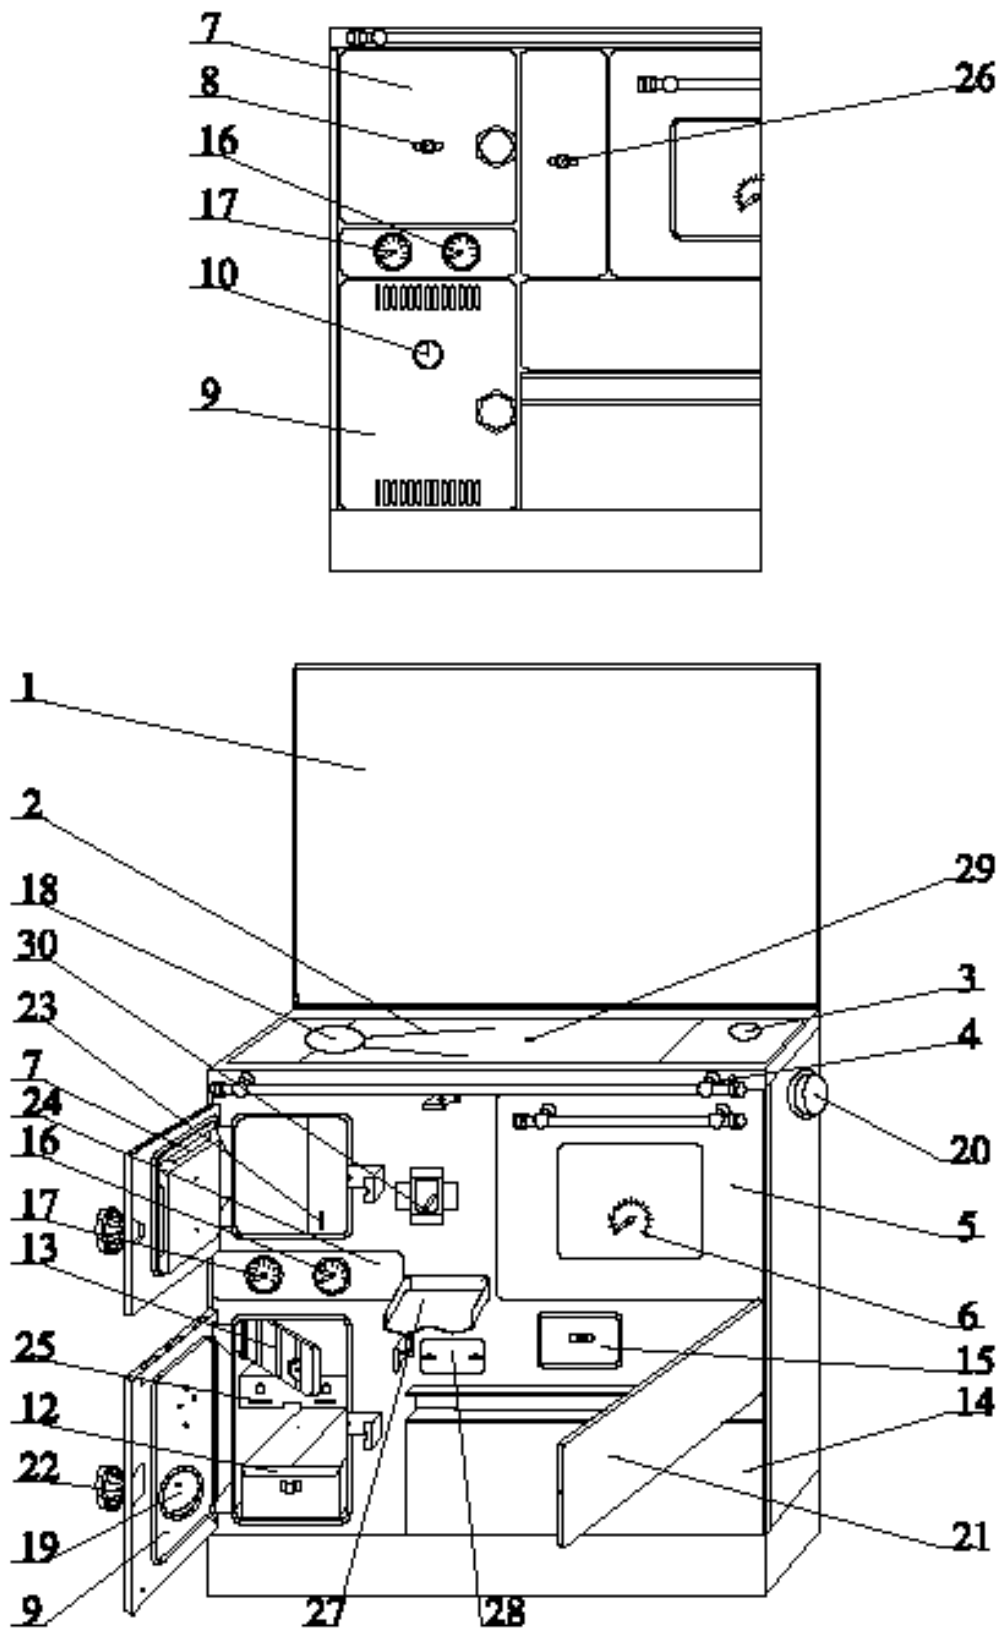

Figure 1
- combustion regulator (thermostat) (Fig. 1, Item 10), located in the ash pan door, which automatically shuts the air supply into the firebox when the preset water temperature in the boiler is reached,
- combustion regulator (thermostat) correctly opens and closes the thermostat damper (Fig. 1, Item 19), by using the regulation knob (Fig. 1, Item 10),
- grate holder (Fig. 1, Item 13) is properly fitted on its supports and that it is easily opened.